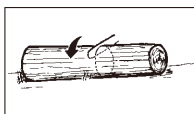

Fig. 13A
1. Log supported along entire length: Cut from top (overbuck), being careful to avoid cutting into the ground (Fig.13A).